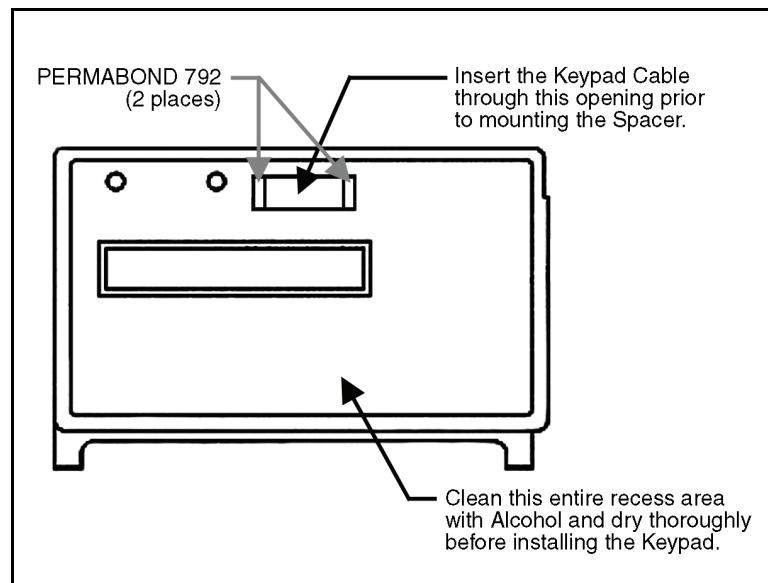

Figure 6-10. Keypad Replacement
8. Refer to Figures 6-10, 6-11, and 6-12. Insert the new Keypad Cable through the opening in the Front Case.
9. Refer to Figure 6-10. Apply a small amount of Permabond 792 onto both ledges on the Front Case where the Spacer will sit.